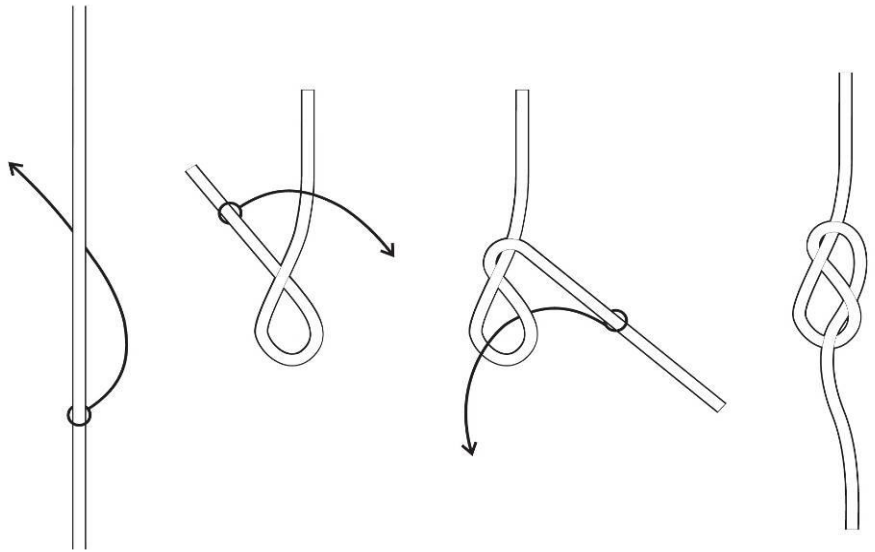

Figure-8 Stopper Knot
2. FIGURE-8 STOPPER KNOT:
3. FIGURE-8 ON-A-BIGHT:
Figure-8 on-a-bight
4. DOUBLE-LOOP FIGURE-8: